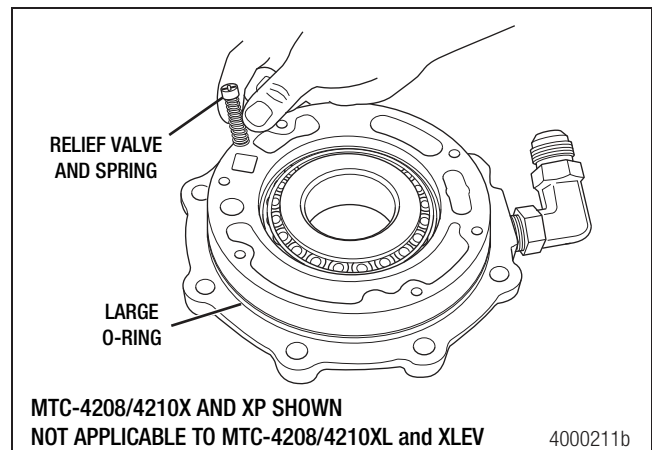
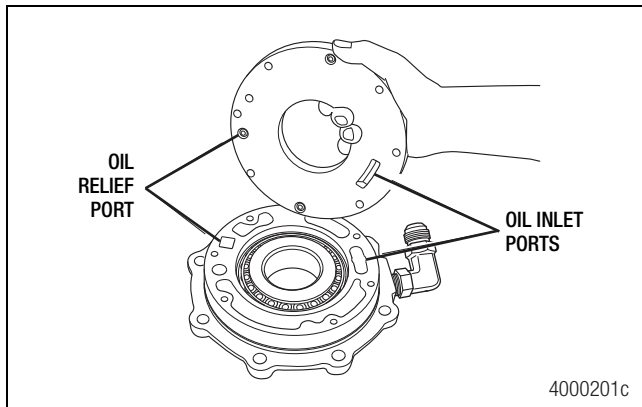

Figure 7.7
Figure 7.8
2. Place the large o-ring around the groove on the bearing cage. Figure 7.7.
- a. **MTC-4208X/XP and MTC-4210X/XP transfer cases only:** Pack lithium-complex grease, Meritor specification O-668, into the pump oil inlet port before assembling the oil pump to the input bearing cage. Figure 7.8.
- c. MTC-4208X/XP and MTC-4210X/XP transfer cases only: Insert the relief valve and spring into the relief port of the input bearing cage. Install the large diameter end of the spring down. Figure 7.7. Align the oil pump inlet with the oil inlet port of the input bearing cage. Figure 7.8.